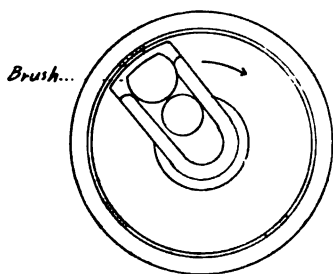

Fig. 3
In some forms, as, for example, the Remy (Fig. 3), the distributor is an arm (A) which passes over four segments (in four-cylinder motors) and which comes into contact with a segment just as the proper cylinder is in its firing-position. As there are as many segments or brushes in a distributor-box as there are cylinders to the motor, the arm or disk of the distributor moves at the same speed as the cam-shaft, or one-half as fast as the main magneto shaft and breaker.